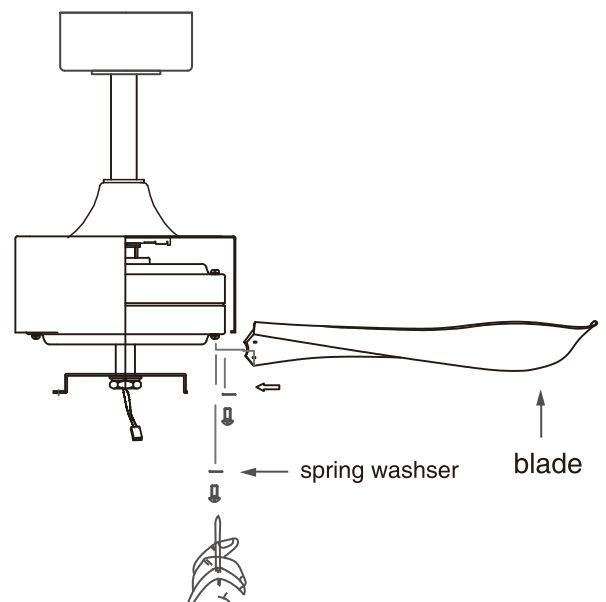

Fig 12
Warning: Please pay more attention to install the correct direction of the fan blade as the (Fig. 12) shown.
Step 1. Install the light plate onto the fan motor by key hole screws pre-installed. See figure 12.
Step 2. Connecting the wire plug from LED Light Kit to the wire plug from fan motor (Blue to Blue and White to White); and then install directly the LED light Kit onto the light plate by the magnetic suction-cup bolt. See figure 12.
Step 3. Install the glass shade by turning clockwise in position. See figure 12.